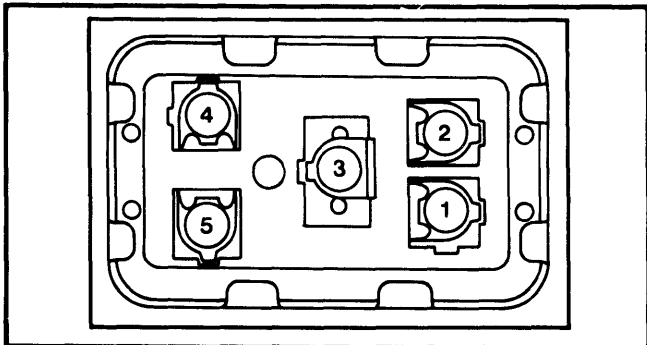

Fig. 6 Dual Pick-Up Start-Run Relay Terminal Locations
1) Turn ignition switch "OFF". Remove 2-wire connector from dual pick-up start-run relay terminals 4 and 5. Using an ohmmeter, connect leads to terminals 4 and 5 of start-run relay. See Fig. 6.